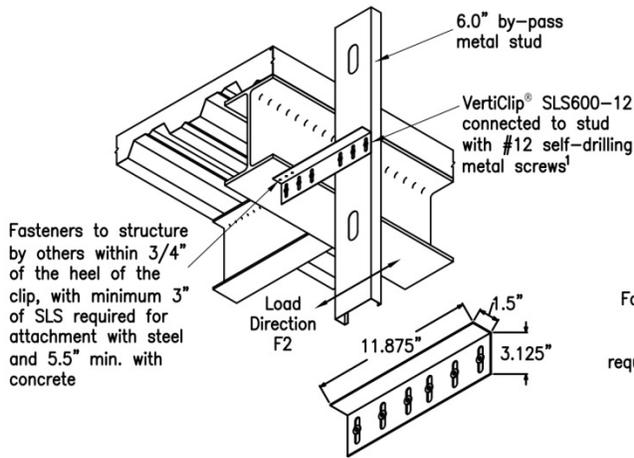

Figure 3 – VertiClip® SLS600-12
**3.1.4 VertiClip® SLS:** The VertiClip® SLS600–12 is an L-shaped angle that connects 6 inch deep (152 mm) exterior curtain walls to a building's structural steel spandrel beam or structural concrete floor slab, while allowing for a maximum of 11/2 inches (38 mm) of vertical movement between exterior wall elements and the primary structure. The minimum base-metal thickness of the clip is 0.0677 inch (1.7 mm). The designation “–12”, following the model number SLS600, represents the total length, in inches, of the connector. The end of the connector that is attached to the curtain wall framing members has two or three vertical slots, each 3/8 inch (9.5 mm) wide by 17/8 inches (47.6 mm) long. Refer to Figure 3 for overall dimensions of the VertiClip SLS600–12 connector and a typical installation detail.